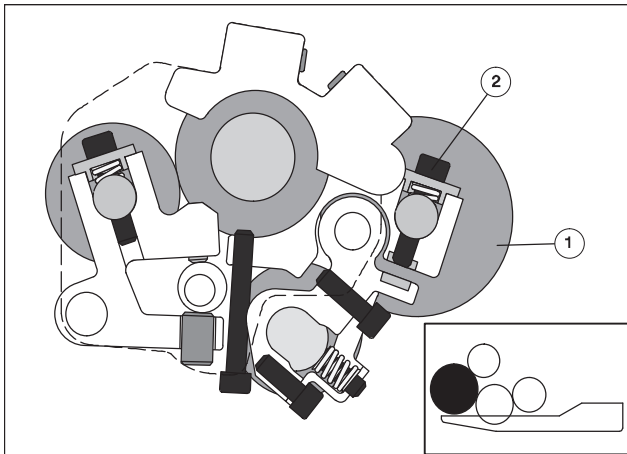

Fig. 42 Removing the dampening form roller
2. Completely unscrew the Allen screw (Fig. 42/2) on D.S. and O.S. using the operator tool and remove with cap and spring from the roller shaft.
3. Remove the dampening form roller (Fig. 42/1) from the bearings.